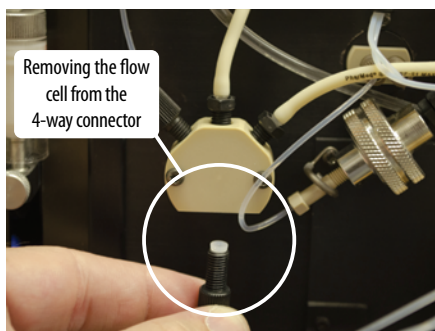

Figure 4.
3. Disconnect the flow cell line from the bottom of the 4-way connector (**Figure 4**).